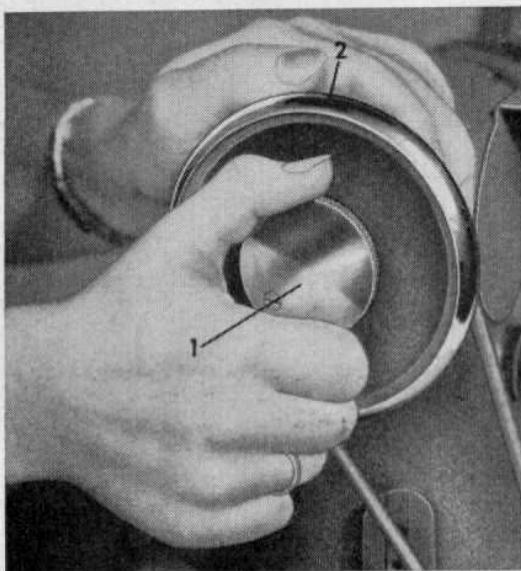
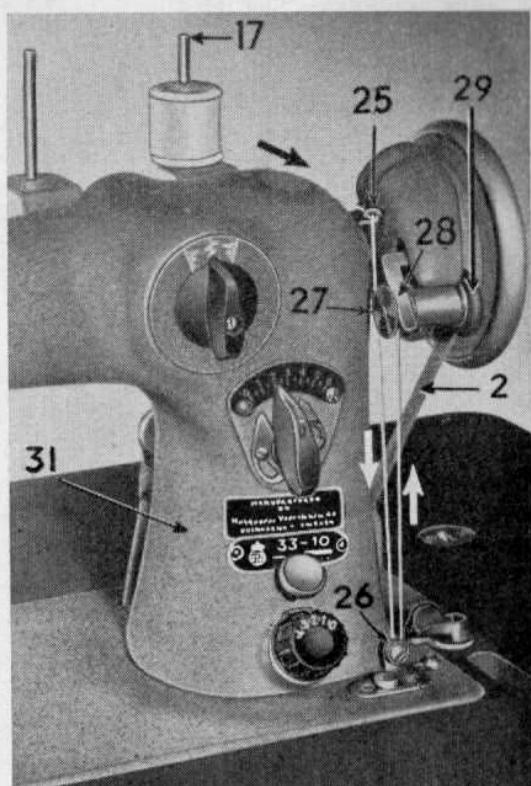

FIG. 2
FIG. 3
a. To stop the sewing mechanism, disconnect handwheel (2) by holding its rim with your left hand and turning stop motion knob (1) toward you with your right hand. (Fig. 2.)
b. Place a spool of thread on the spool pin (17) nearest to bobbin winder. Lead end of thread through wire guide (25) downward along front of arm (31) to tension device (26) at its bottom. Pull thread from left to right between the discs of the tension device.
c. Wind the thread two or three times around the bobbin and push it onto bobbin winder spindle (27) as far as it will go. Press down bobbin winder latch (28), so that the rubber ring of bobbin winder pulley (29) comes in contact with the rim of the handwheel (2). See fig. 3.
d. Start off machine by depressing pedal of motor control and keep machine running at moderate speed until bobbin is wound fully. Bobbin winder will automatically discontinue winding. Stop machine and pull bobbin off the bobbin winder spindle (27).
e. After bobbin has been wound, again connect the sewing mechanism to the handwheel. To accomplish this, hold handwheel with your left hand. Firmly grasp stop motion knob (1) fig. 2, with your right hand and turn it clockwise until it is tightened securely.